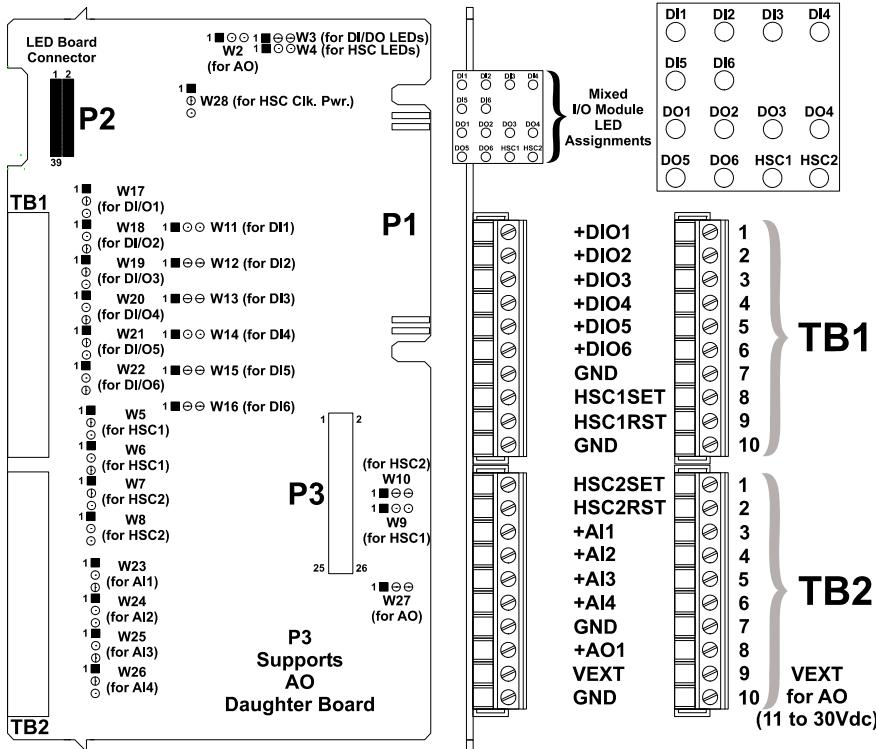

Figure 3-19. Non-isolated MI/O Module (Local Termination)
**Wiring the Module** *Figure 3-19* shows field wiring assignments for a locally terminated MI/O module. *Figure 3-20* shows field wiring assignments for a remotely terminated MI/O module.